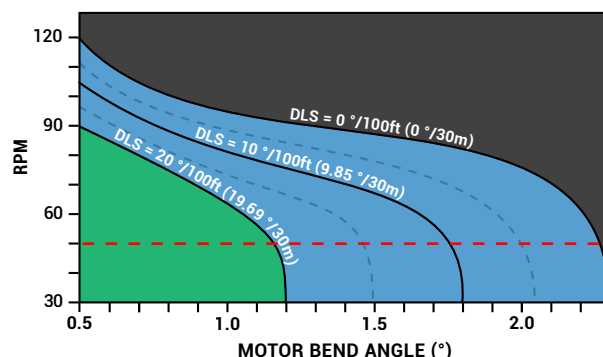

Figure 3: Illustration of Example 3
3. **"Out of Spec" Rotation** - Ex: a 20°/100ft is drilled with a 2.3° motor bend. According to the chart, rotating once you've landed this curve would be "out of spec". In this scenario, a low RPM (maximum of 30) would have to be used until the bend is effectively out of the curve and in a straight wellbore. Once in a straight wellbore, RPMs can be increased to 50 (refer to red dashed line in Figure 3).